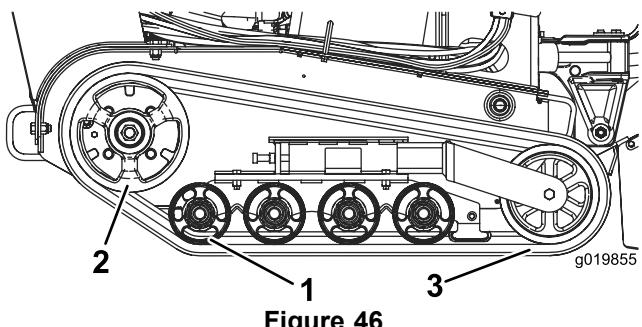

Figure 46
**Important:** Ensure that you fully clean the wheels and the drive sprocket (Figure 46).
8. Beginning at the drive sprocket, coil the new track around the sprocket, ensuring that the lugs on the inside of the track fit between the spacers on the sprocket (Figure 46).
9. Push the track under and between the rear and center road wheels (Figure 46).